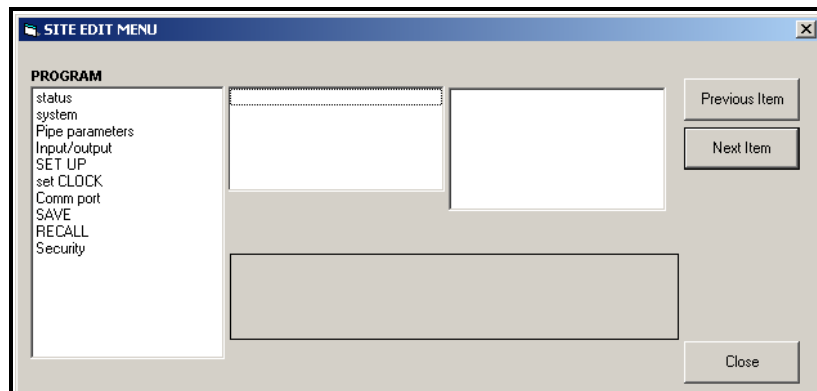

Figure C-20: The Site Edit Menu Window
5. To open a particular menu, double-click on that menu on the tree. For example, if you double-click on the Site Edit Menu, a window opens similar to Figure C-20 below.